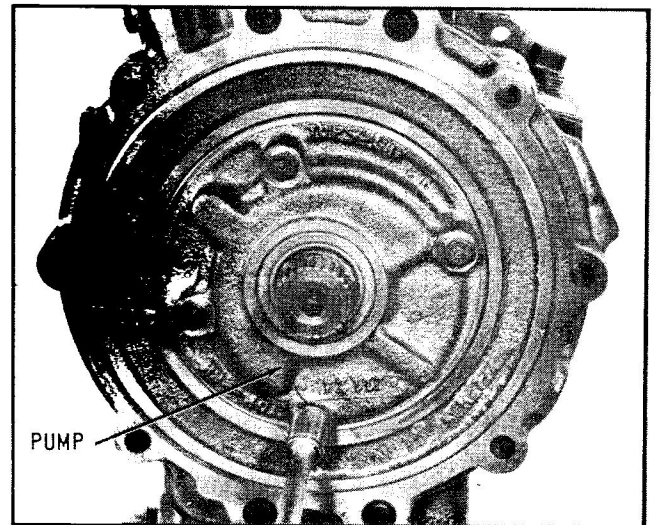

Fig. 13 Remove Pump Bolts
3. Place transmission upright on bench and remove the four pump to adapter bolts, (Fig. 13). Use a plastic hammer to free pump as it is pulled forward and off of input shaft.